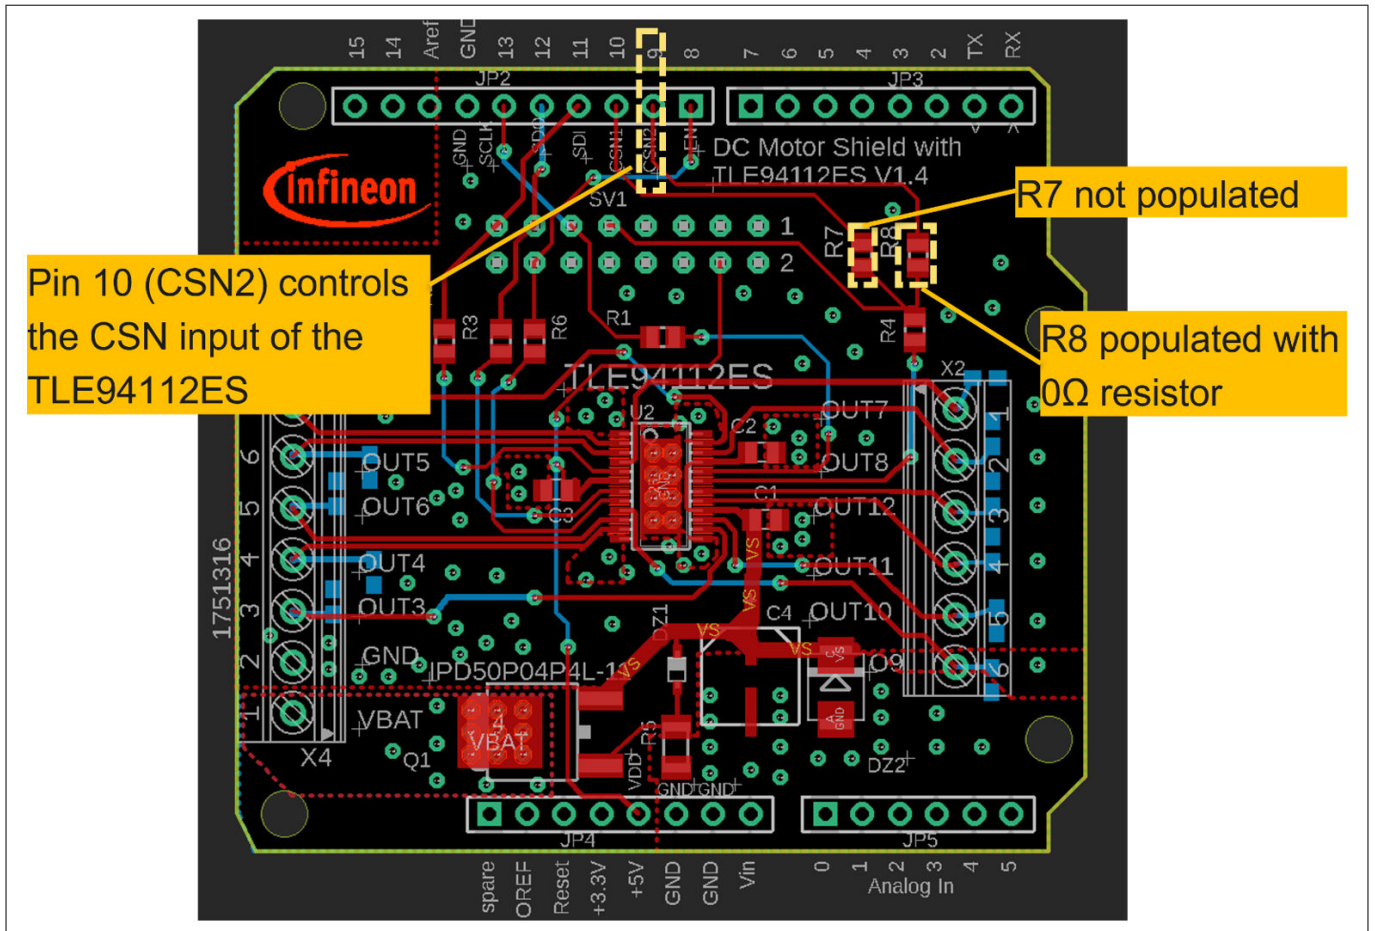

Figure 9 Control of CSN of TLE94112ES by Ppn 9 (CSN2)
Alternatively, pin 9 of the Arduino UNO can also be used to stack two shields (refer to Stacking two DC Motor Shields). In this case, the resistor R7 (0 Ω, case 0805) must be desoldered (Figure 9) and a 0 Ω resistor (case 0805) must be soldered on the footprint of R8 (Figure 9).
- The TLE94112ES of the other DC Motor shield is controlled by pin 9 (Figure 9)